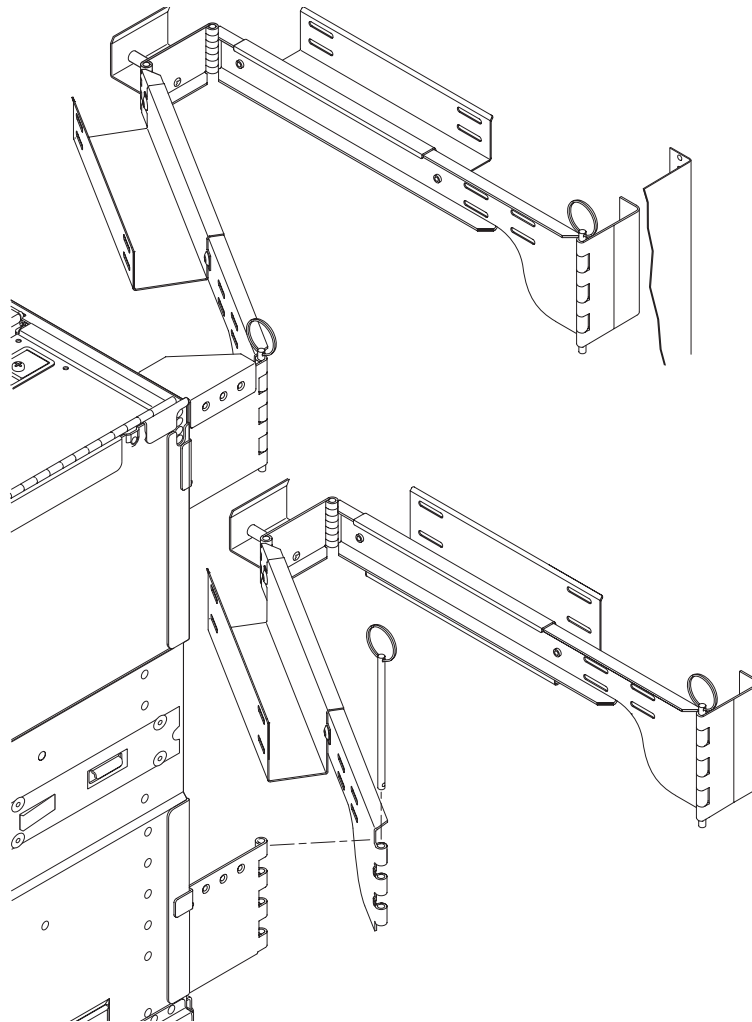

FIGURE 1-16 Assembling the Upper and Lower Cable Arms
8. Reconnect the I/O cable arm to the upper pivot bracket and secure it by restoring the hinge pin (FIGURE 1-16).
9. Reconnect the power cable arm to the lower pivot bracket and secure it by restoring the hinge pin. (FIGURE 1-16).